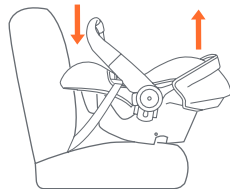

Fig. 53-3
2. Safety Seat without Base: Check that the Safety Seat is level side to side on the vehicle seat. Check the level Indicator appropriate for the weight of the occupant as shown in (Fig. 53-3).